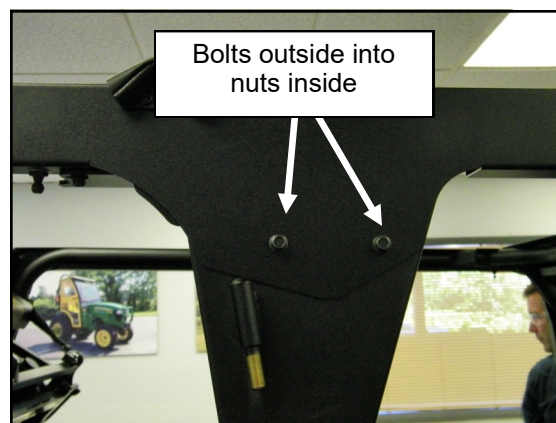

Fig. 7.2 (Header to B-pillar)
**7.2** Per figure 7.2, attach the header to the B-pillar with (2) 1/4-20 bolts and nuts per side, with nuts on the inside of the panel. Leave loose.